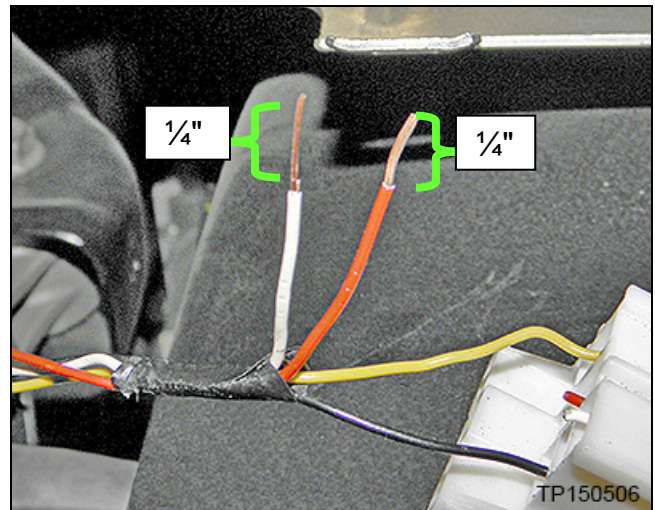

Figure 7
- Strip approximately $\frac{1}{4}$ inch of insulation from the ends of both the red and the white wires (Figure 7).